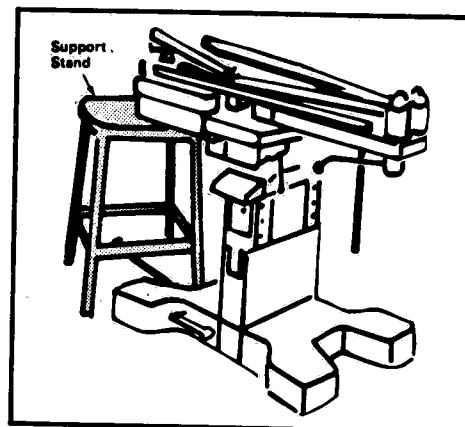

Figure 3-3. SUPPORTING THE SUPERSTRUCTURE.
b. Have two persons lift the table superstructure to its maximum height; have a third person place a support under the superstructure (Figure 3-3).